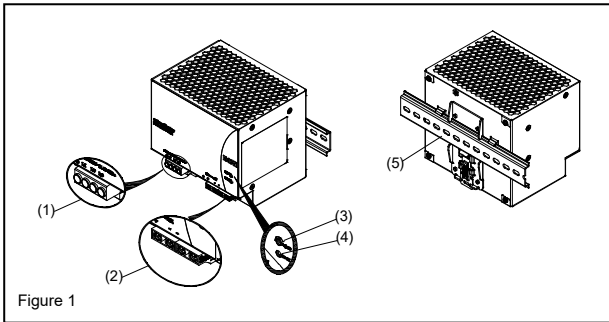
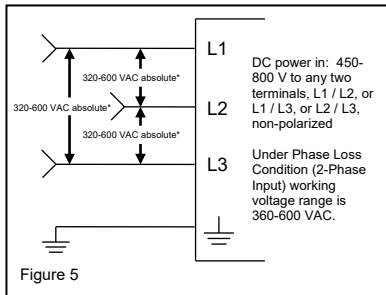

Figure 1
Figure 5
- Device description (Fig. 1)**
- (1) Input terminal block connector
- (2) Output terminal block connector
- (3) DC voltage adjustment potentiometer
- (4) DC OK control LED (green)
- (5) Universal mounting rail system
**5.1. Input connection (Fig. 1, Fig. 5)**
Use L1, L2, L3 and PE connections of input terminal connector to establish the 3 x 400-500 VAC connection. Fig. 5 shows the connection to the various network types.
**5.2. Output connection (Fig. 1 (2))**
Use the "+" and "-" screw connections to establish the 24Vdc connection. The output provides 24 VDC. The output voltage can be adjusted from 24 to 28 VDC on the potentiometer. The green LED DC OK displays correct function of the output (Fig. 1 (4)). The device has a short circuit and overload protection and an overvoltage protection limited to 35 VDC.